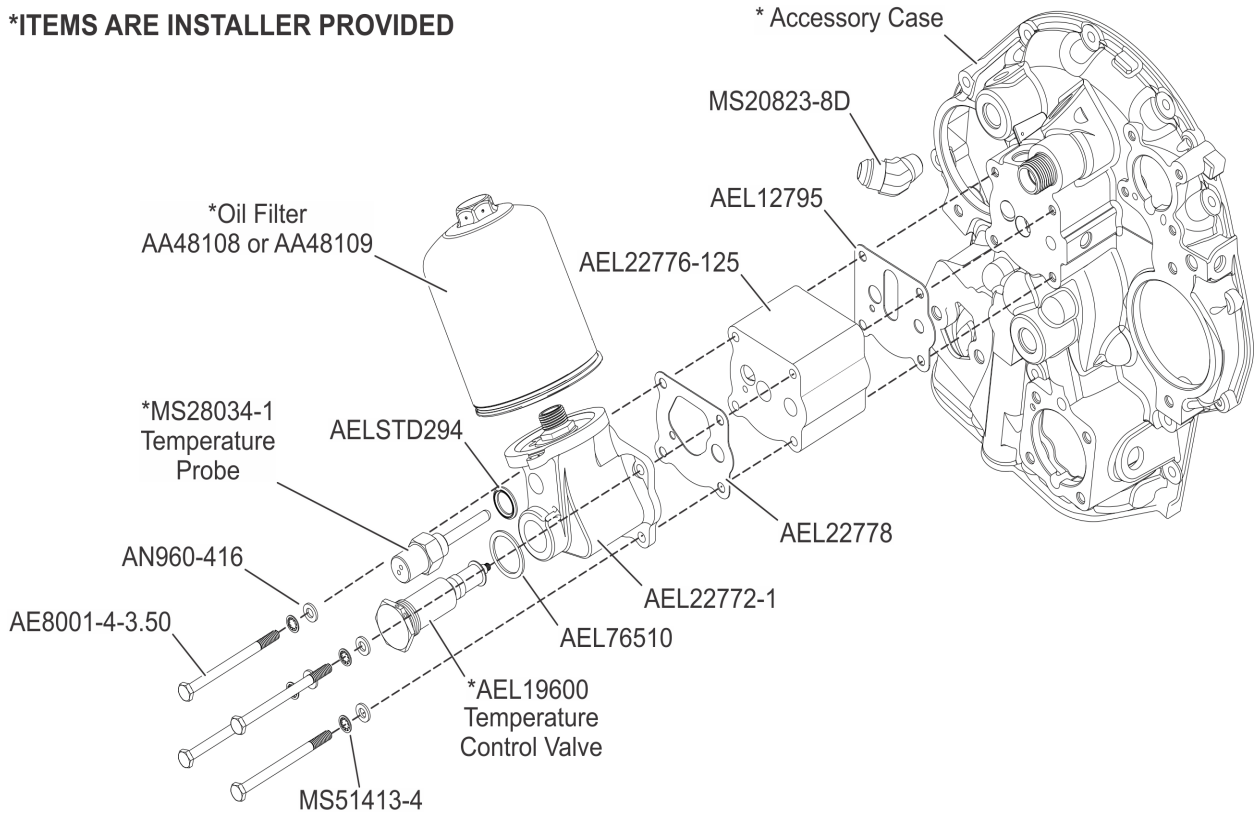

Figure 2. Angled Oil Filter / Oil Filter Adapter Extension, typical
4. To ensure that you have the correct kit, temporarily assemble and fit (with oil filter and all adapters) onto your accessory case (see Figure 2). Each oil filter adapter kit requires the appropriate length bolt for installation (reference Table 1 footnotes).